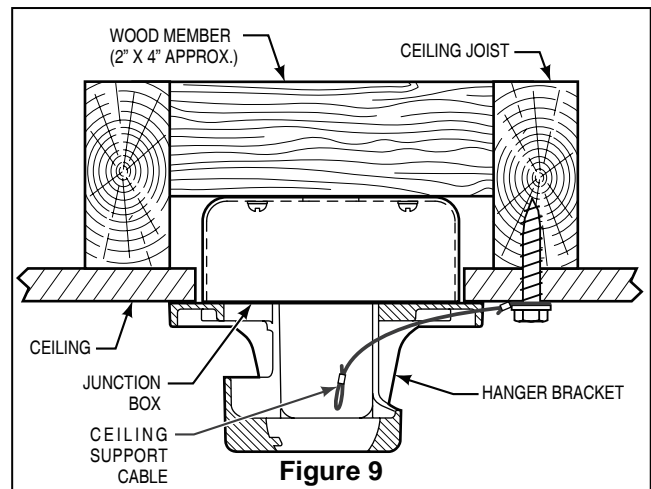

Figure 9
1. Securely attach the hanger bracket to the outlet box using the outlet box screws and washers supplied with the outlet box. (Figure 9)
2. Drill a ¼" pilot hole into the building structure to prevent splitting or cracking with installation of the lag bolt. Using the ¾" x 2" lag bolt and flat washer, attach safety cable to ceiling joist or wood structural member. The lag bolt will pass through the flat washer, safety cable loop, and into the building structure. (Figure 9)
NOTE: Ceiling support cable cannot be secured to junction box only, it must be directly secured to ceiling joist or structural member using the ¾" x 2" lag bolt and flat washer. (Figure 9)